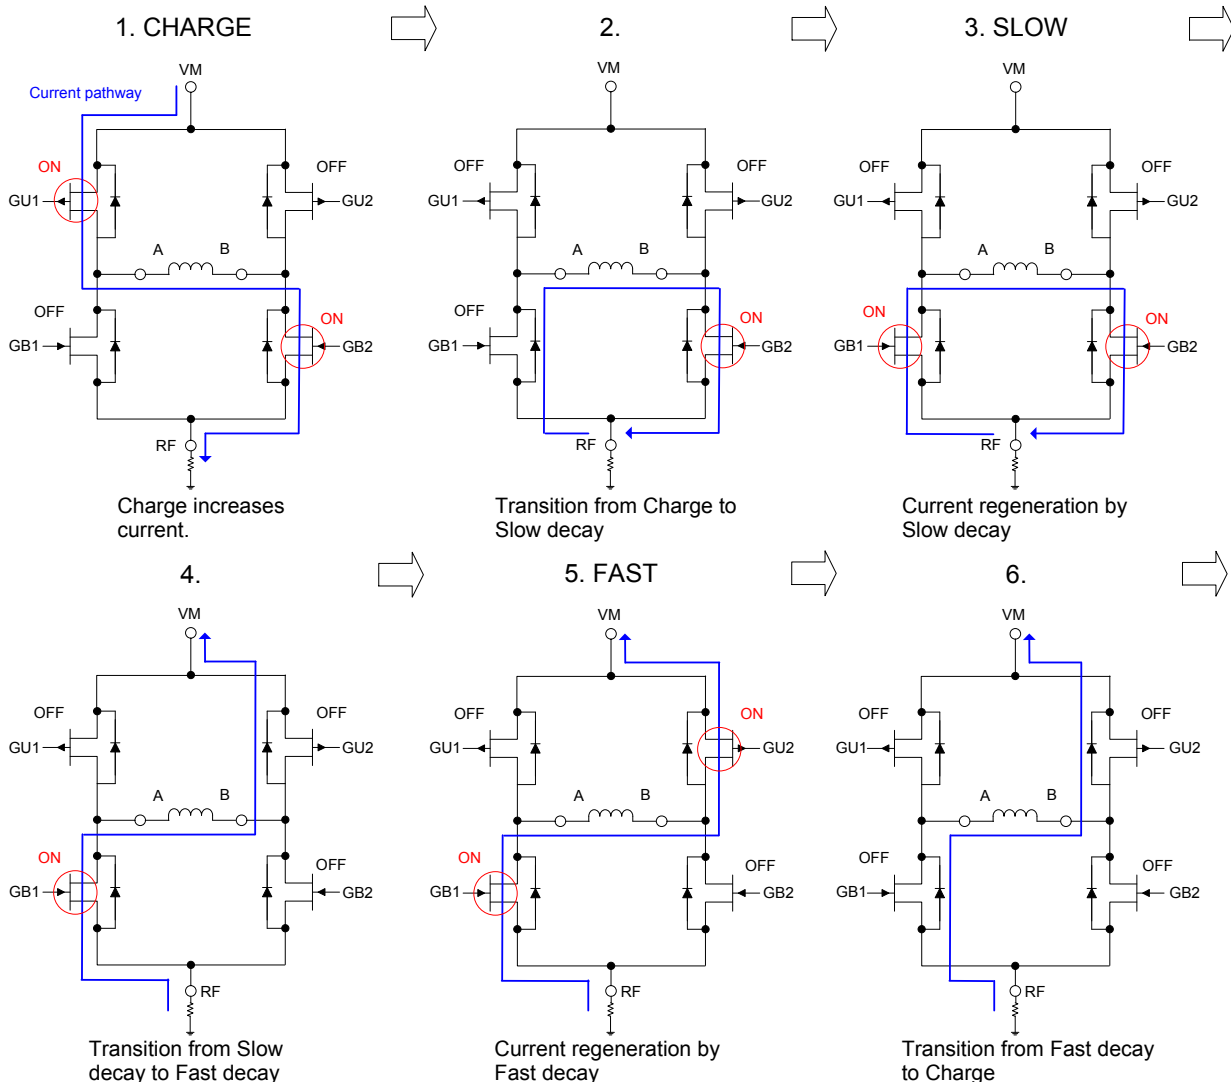

Figure 30. Mixed Decay Sequence
2. Next the device activates Slow decay until 50% (or 75%) of the PWM period depending on register setting. The slow decay shorts the coil to make the circulation current decrease slowly as seen in (3) event in Figure 30
The operation is changed to Charge again from Fast decay. During transition from the upper MOSFET to the lower MOSFET of the same leg a programmable dead time period avoids turning on both MOSFETs at the same time. During this dead time, the coil current flows through the body diode of the MOSFET as seen in (2), (4) and (6) events in Figure 30. Dead time is determined by the register bits through the serial interface.